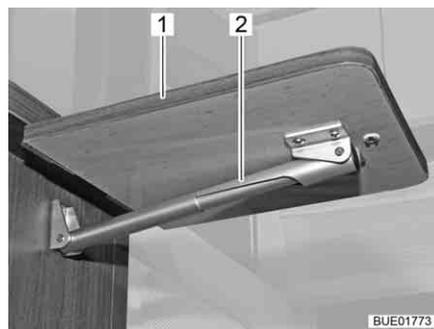

Fig. 74 Folding worktop, unfolded
- Gently pull the folding worktop (Fig. 74,1) to release it from the magnetic holder.
- Swing up the worktop until the fixture of the telescopic holder (Fig. 74,2) engages.